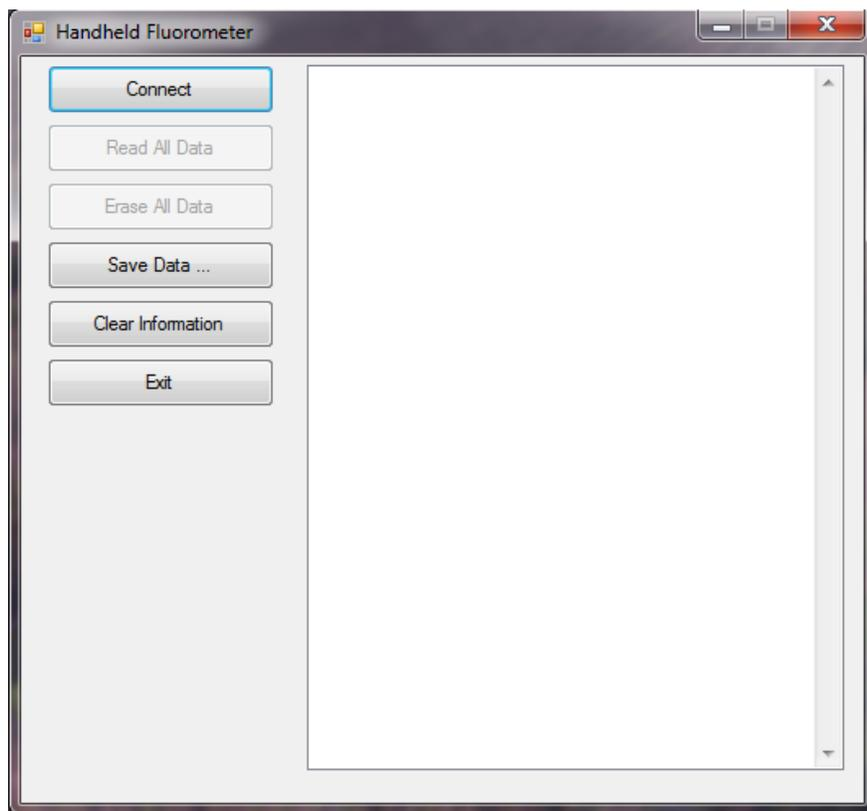

Figure 23. Fluorometer Data Manager window.
- a. Double click “**Data Manager - User (Active)**” shortcut icon on Desktop to bring up “**Handheld Fluorometer Data Manager**” window, as shown in Figure 23.